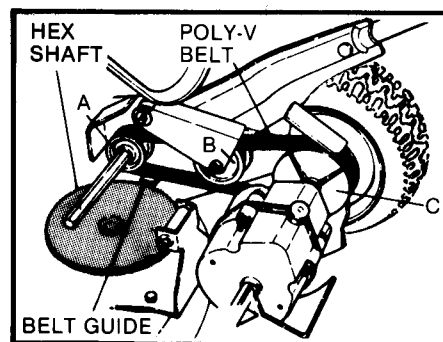

FIG. 18 POLY-V BELT REPLACEMENT
POLY-V-BELT REPLACEMENT: The driven disc assembly must be removed first. Note the arrangement of the old belt around the three pulleys before cutting and removing it. Slip the replacement belt over the end of hex-shaft and onto pulley (A). Then work it onto idler pulley (B) and twist it sideways and pull upward between the differential bracket and transmission pulley (C) and then down into the pulley's groove. Make sure the belt is in each pulley's groove! Refer to FIG. 18.